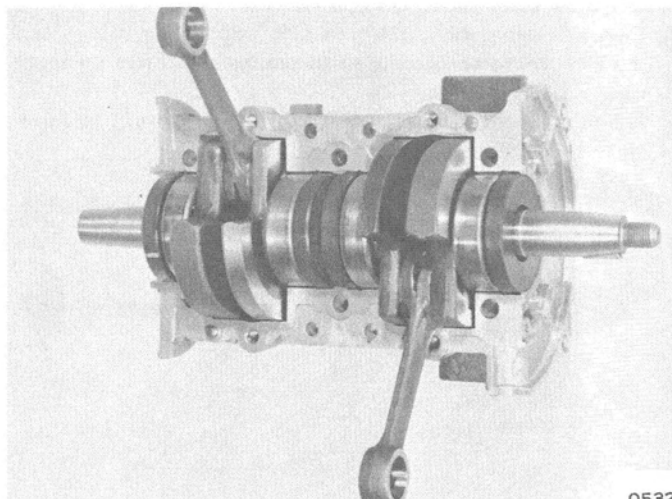

Figure 2. Crankshaft Installation
3. Install crankshaft in lower half of crankcase. (Figure 2)